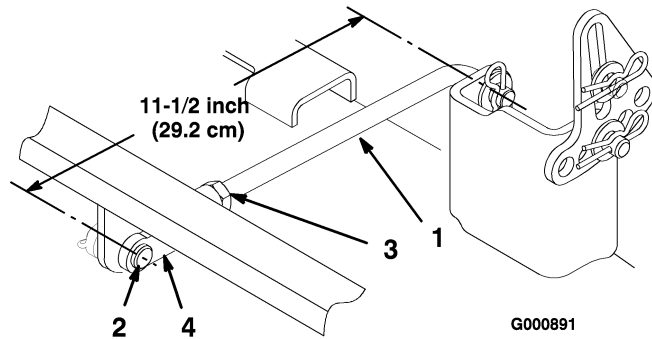
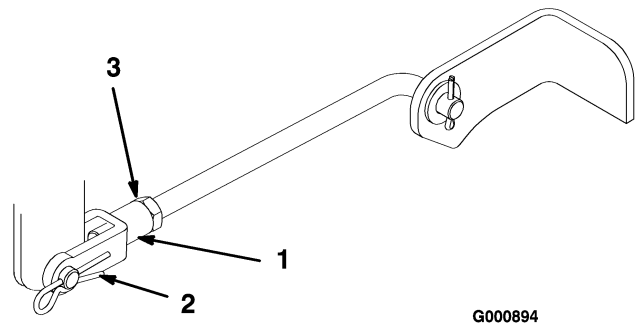

Figure 45
Figure 47
6. Measure the length of the rear trunion rod (Figure 45). If the rod length is not 11-1/2 inch (29.2 cm), remove the clevis pin and cotter pin from the end of the rod (Figure 45), loosen the jam nut, and turn the yoke until the 11-1/2 inch (29.3 cm) dimension is obtained.
- To adjust the front-to-rear blade slope, remove the hairpin cotter and clevis pin from the front trunion yokes and loosen the jam nuts (Figure 47).
- Rotate the yokes on the rods to change the adjustment (Figure 47). To raise the front of the mower, tighten the yokes (shorten the rods). To lower the front of the mower, loosen the yokes (lengthen the rods).
- When the front-to-rear blade slope is correct, tighten the jam nuts (Figure 45 and Figure 47).